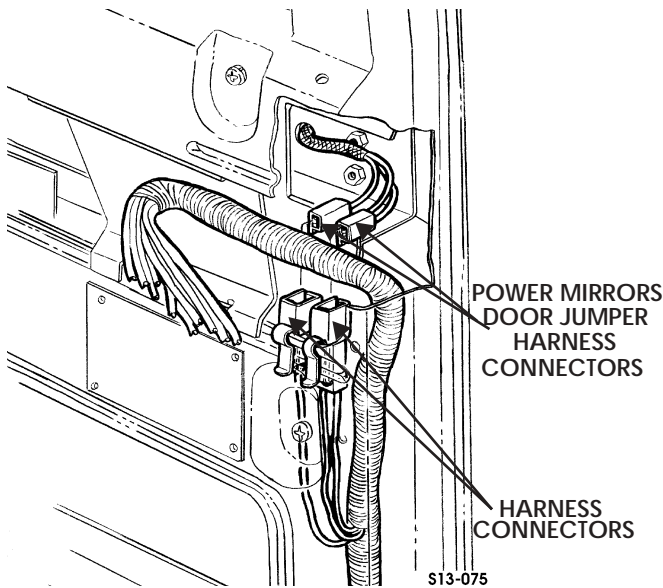

Figure 13-84: Power Mirrors Door Jumper Harness
11. Disconnect two harness connectors from power mirrors door jumper harness connectors (Figure 13-84).